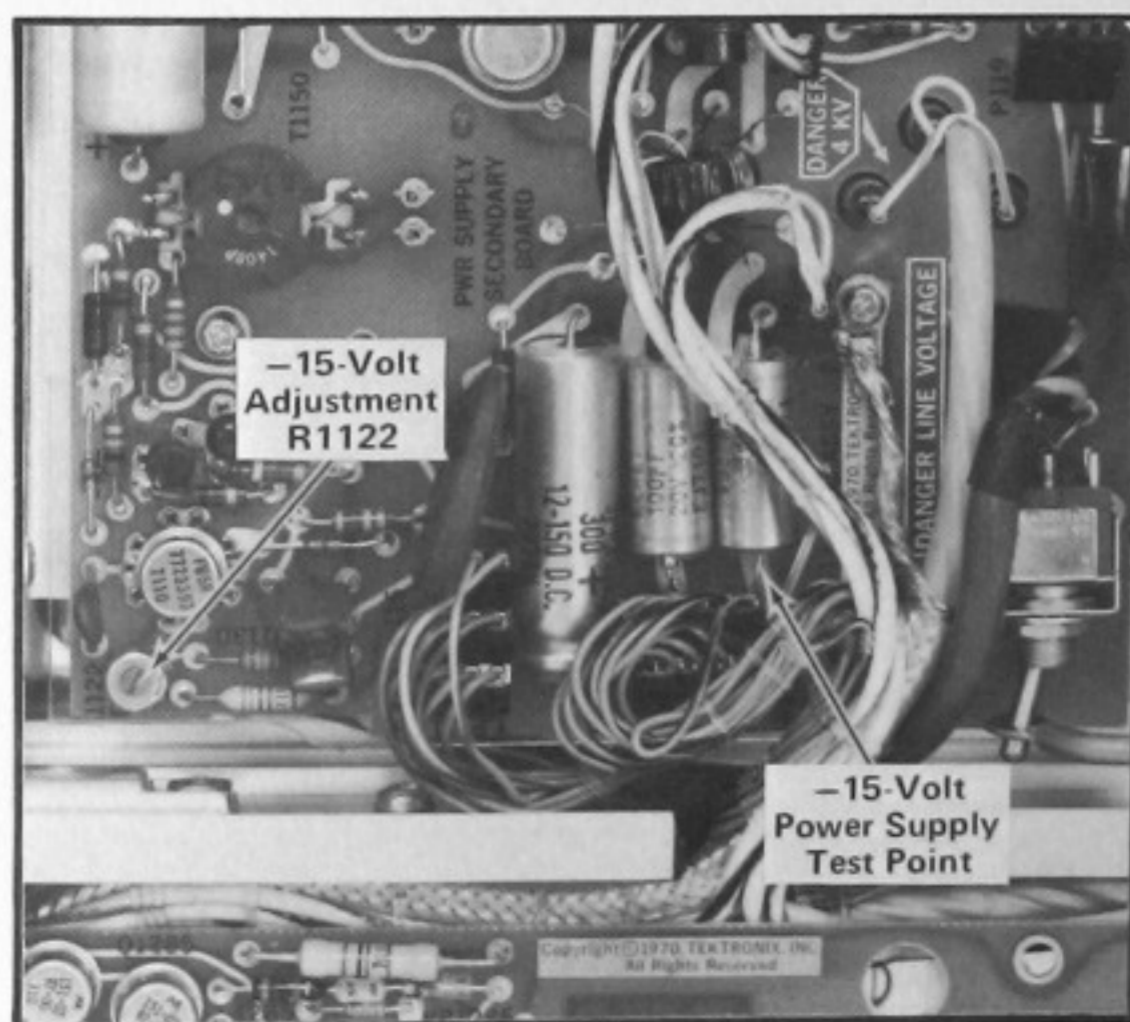

Fig. 5-4. Location of -15-Volt Power Supply Test Point.
a. Connect the Precision DC Voltmeter between the -15-volt power supply test point (negative lead of C1107 on Power Supply Secondary circuit board (see Fig. 5-4) and ground.
c. ADJUST— -15 Volts adjustment R1122 (see Fig. 5-4) for a meter reading of -15 volts, ± 0.037 volt.